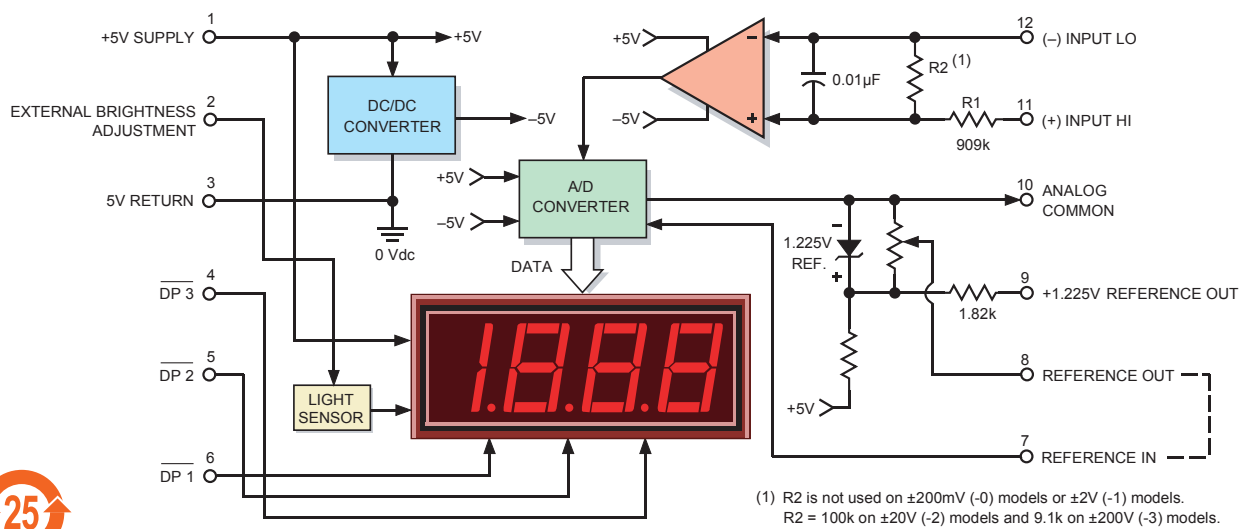

Figure 1. DMS-30DR Simplified Schematic
① Applies for transient or continuous overvoltages applied to (+) INPUT HI (pin 11) with (–) INPUT LO (pin 12) properly connected. Pin 12 is not overvoltage protected (see Figure 1). Voltages applied to pin 12 should not exceed the supply voltage.
② See Technical Notes.
The simplified schematic shown in Figure 1 can be very useful when debugging a malfunctioning panel meter circuit, particularly if the user has some knowledge of operational amplifiers (op amps). The meter’s high-impedance input consists of an op amp powered from a $\pm 5V_{dc}$ power supply (the $-5V$ is internally generated). Knowing this, one can easily see why input signals applied to (–) INPUT LO and (+) INPUT HI have to be kept within the power supply rails of $\pm 5V$. Also note that only pin 11 has a current-limiting 909k Ω series resistor. High input voltages that have a common ground with pin 3 (5V RETURN) should only be applied to pin 11 ((+) INPUT HI) and never to pin 12. In these high-voltage cases, pin 12 should always be tied to pin 3 (5V RETURN).